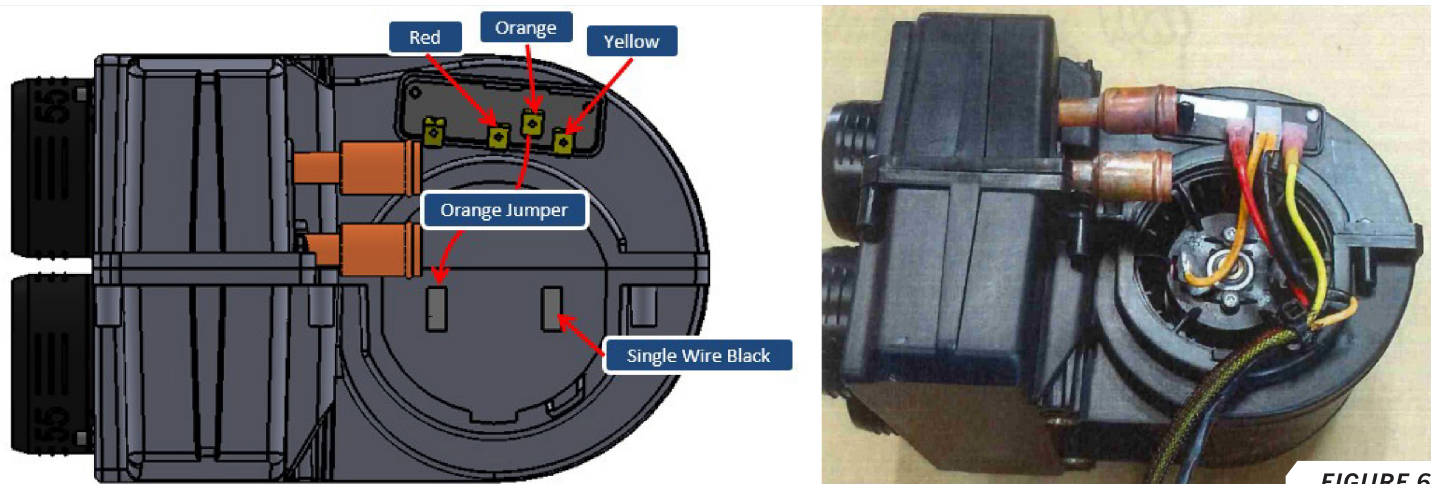

FIGURE 6
20. Using the Three Conductor Wiring Harness (Orange, Yellow, Red) and Single Black Wire included in the heater kit, install the Orange, Yellow, Red, and Black wires as shown in *FIGURE 6*.